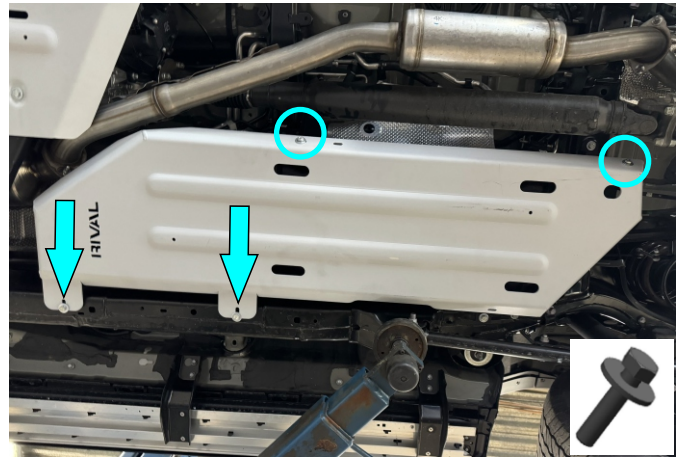

Fig. 7
4. Slide skid plate (item 1) on previously installed bolts from step 3 and secure its other side using bolts M8x25 and washers M8 (items A, B) as shown in fig. 7.